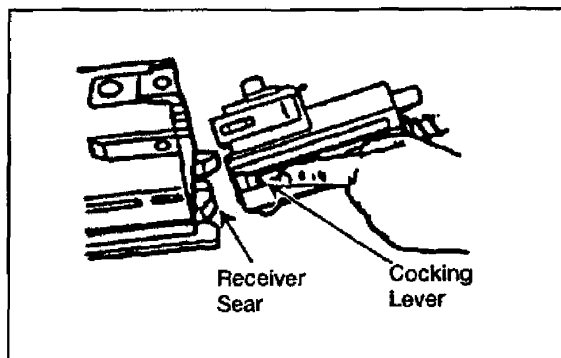

Figure 071-030-0001-24. Insertion of the bolt and backplate assembly
(2) Slide the primary drive lever lock to the rear and engage the pivot post lever through the holes in the receiver and vertical cam.
(3) Slide the primary drive lever lock forward. (The primary drive lever lock is located on the vertical cam just beneath the top of the receiver).
J. Insert the bolt and backplate assembly (figure 071-030-0001-24).